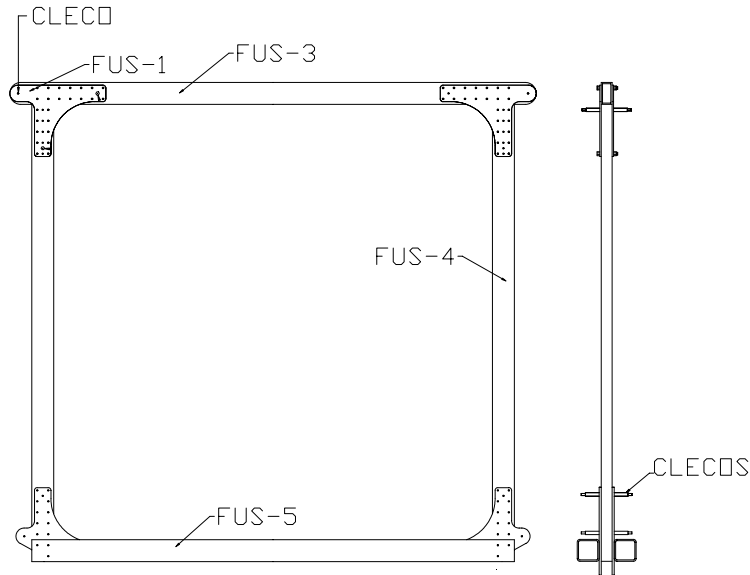

Figure 9.5.4
- 6) Cleco the four (4) FUS-1 gussets and the FUS-3 carrythrough into position. Figure 9.5.4.